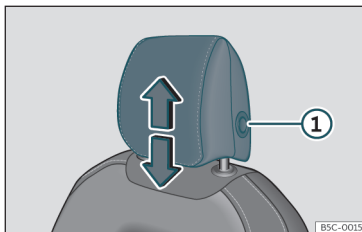
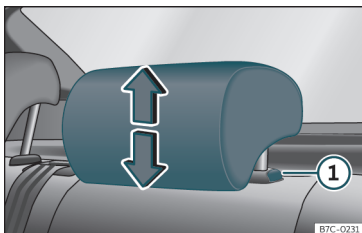

Fig. 101 Front seat: headrest adjustment.
Fig. 102 Rear headrest: headrest adjustment.
- Grab the sides of the head restraints with both hands and push upwards to the desired position. To lower it, repeat the same action, pressing the button on the side ① >>> **Fig. 101** >>> **Fig. 102**.
- Press the side button >>> **Fig. 101** ① and remove the headrest.